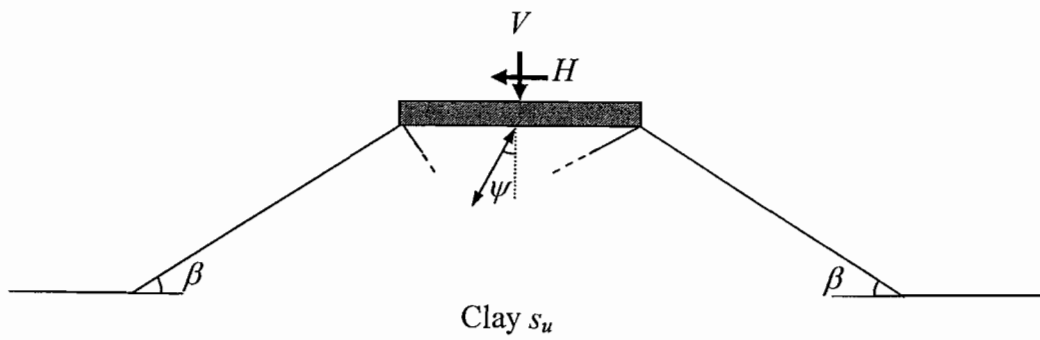

Fig. 2
(b) The applied load is now inclined and has both vertical (V) and horizontal (H) components as shown in Fig. 2. For the stress state under the foundation, the angle between the major principal stress and the vertical direction is ψ as shown in the figure. Complete a lower bound mechanism using a stress fan. When the foundation fails, find a relationship between H and ψ , and derive an expression that shows the combination of limiting values of V and H . Assume that the clay is weightless. [25%]